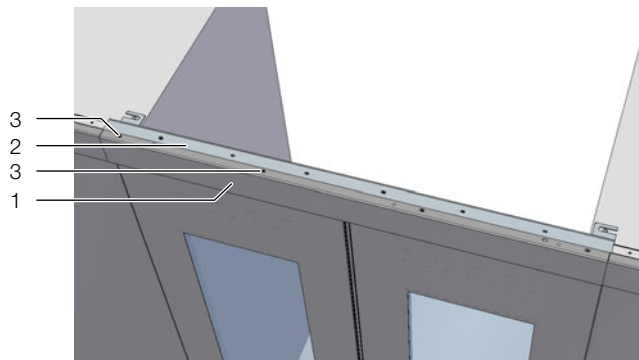

Fig. 38: Fastening the centre trim panel
- Place the centre trim panel on the centre fastening strip and fasten with four oval-head screws M6 x 10 mm in the predrilled holes (fig. 38).